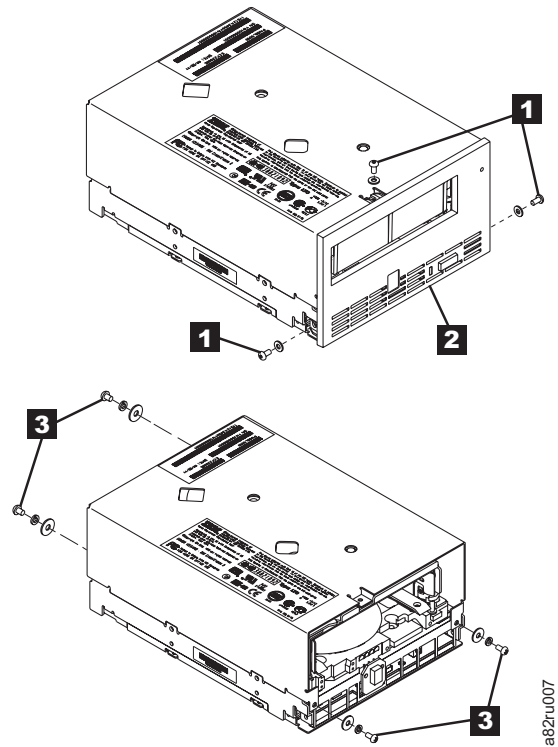

Figure 124. Removing the cover from the internal drive
- a. Using a Phillips screwdriver, remove the three screws and washers (see **1** in Figure 124) that secure the bezel **2** to the internal drive, then remove the bezel.